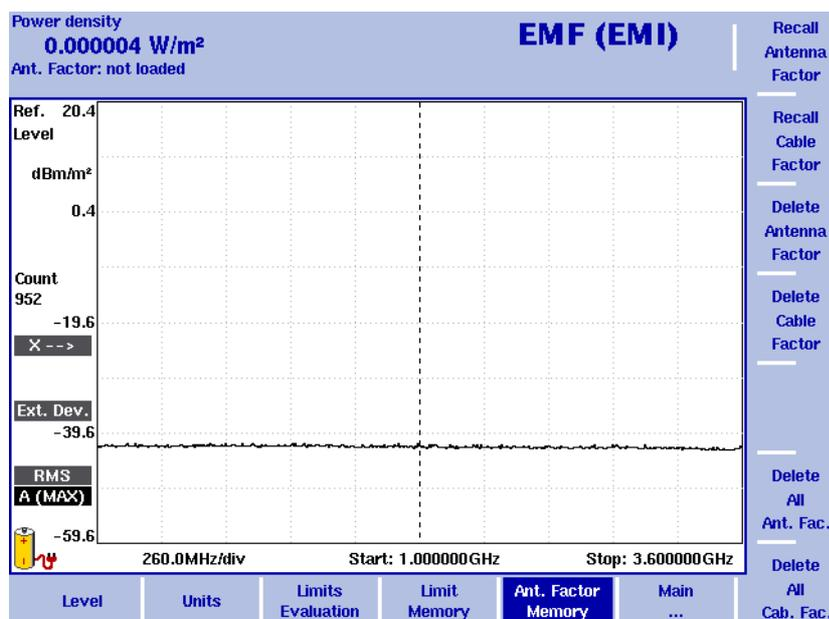

Figure 56 Antenna Factor menu
- 1 In the EMF (EMI) main menu select **Level > Ant. Factor Memory**. The Antenna Factor Memory is displayed (see Figure 56 on page 194).